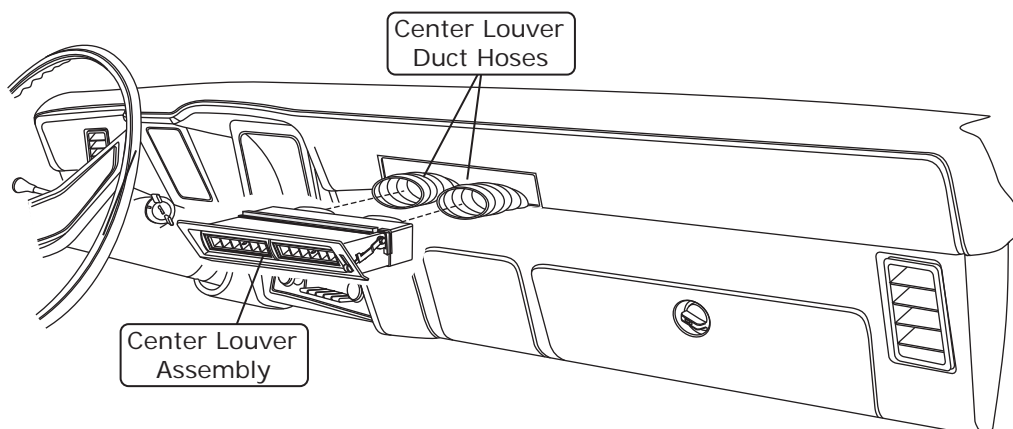

Figure 1
1. Attach (2) 25" lengths of 2 ½" duct hose to the center louver as shown in Figure 1, below.